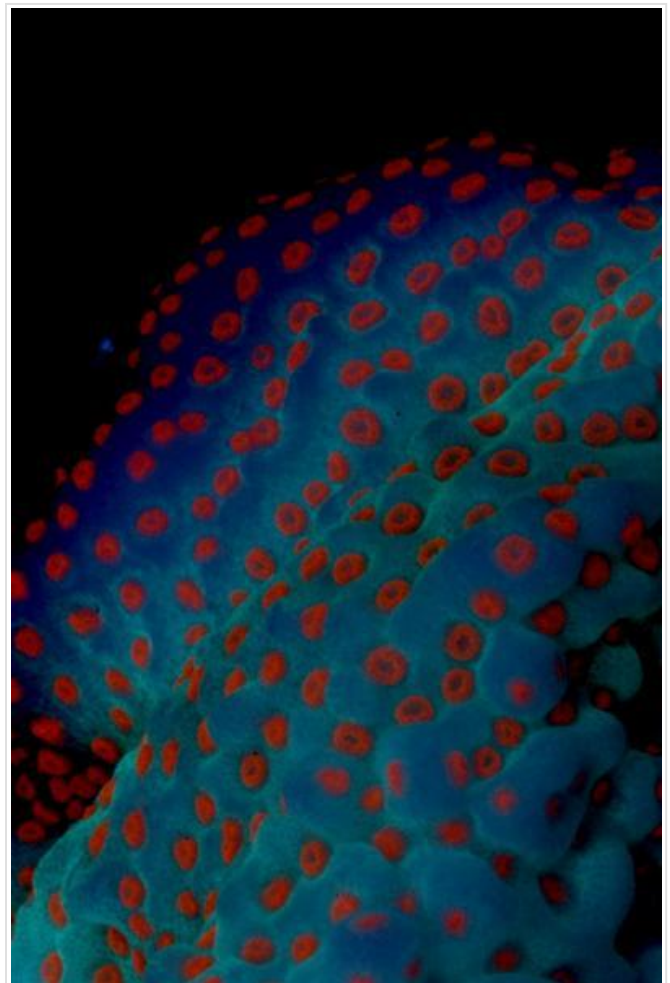

Figure 1. A Superman *Montipora*.
**Variously described as these species:** *Montipora danae* (which can be confused with *M. verrucosa*, *M. verruculosus* and *M. palawanensis*. The latter two species are uncommon and restricted to a smaller geographical area than the two former species). Also described in advertisements as *M. tuberculosa*. The coral in Figure 1 is likely *M. danae* as its immersed corallites are widely spaced between hillocky coenosteum verrucae (or tuberculae) and partially fused ridges. Identification is based on results obtained by using Veron's Coral ID software. See Comments below for basis of identification.